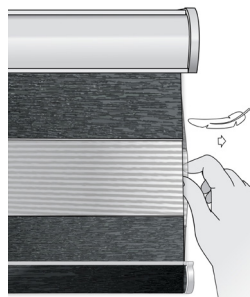

Figure 13: Correcting unaligned fabric
- Then, gently pull the back fabric panel in line with the front [Figure 13].